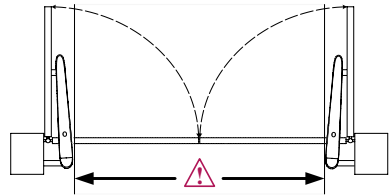

Figure 7. Drive-through width for a gate opening outwards
- Note that, for a gate opening outwards, the drive-through width may be reduced due to the drives overhanging into the drive-through area (fig. 7).